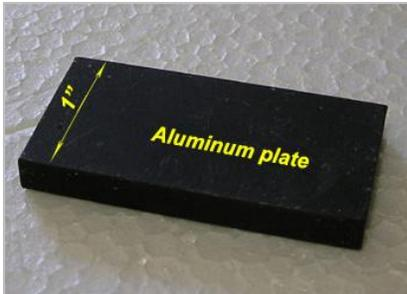

Fig. 1a
- (2) Similar to procedures above (Fig. 1a, b, and c), make sample holding kit with 1" aluminum plate, graphite plate and sample by epoxy and wax.